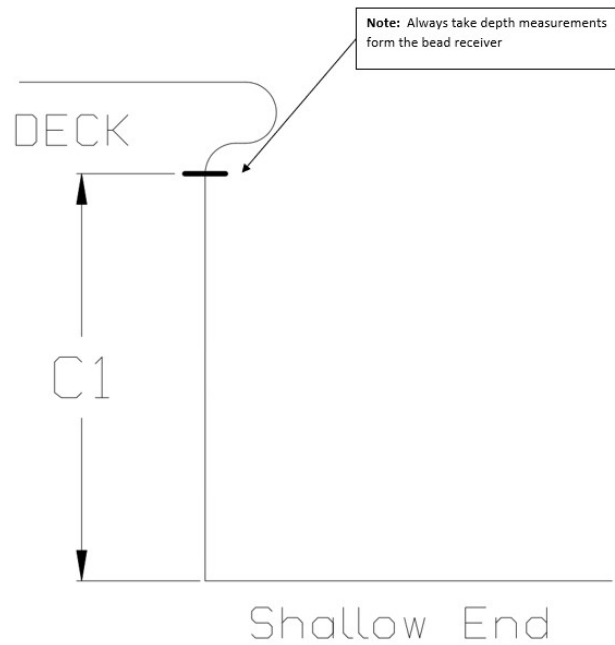

Figure 7
**TIP:** All Depth Measurements are taken from the Bead Receiver and not the Top of the Pool Deck (Figures 7 & 8)